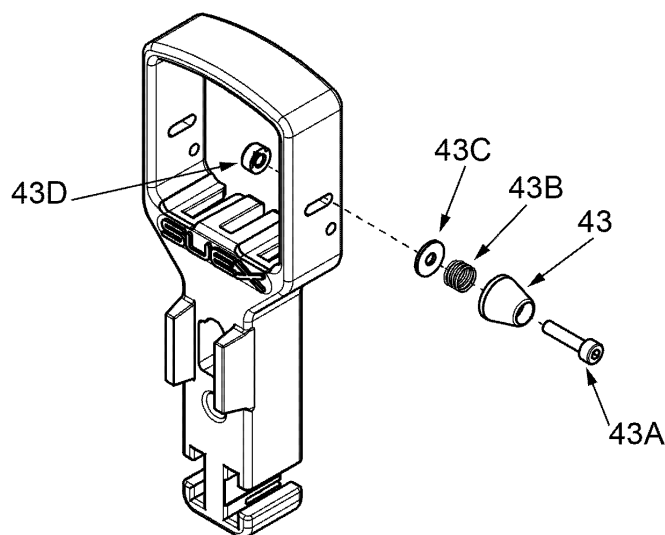

Fig 23 - Place cruise control on the right side
- Unscrew the screw (43A) by locking the nut (43D Fig 23 - on p. 20) (use the tools provided),
- reposition all cruise control components on the right side of the handle respecting the sequence (see Fig 23 - on p. 20).